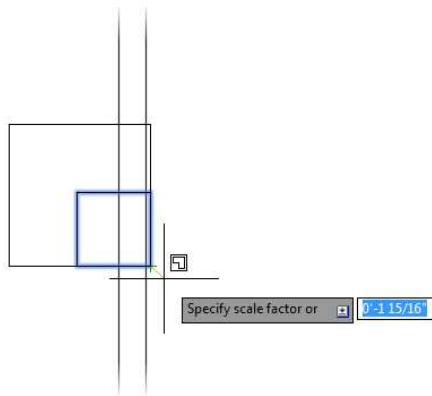

FIGURE 5.19: A copy of the scaled object appears as you move the cursor.
7. With the SCALE command active, select the lower-right corner as the base point. Then move the cursor to see the effect when the scale is based from that corner. A copy of the selected object appears, as shown in Figure 5.19.